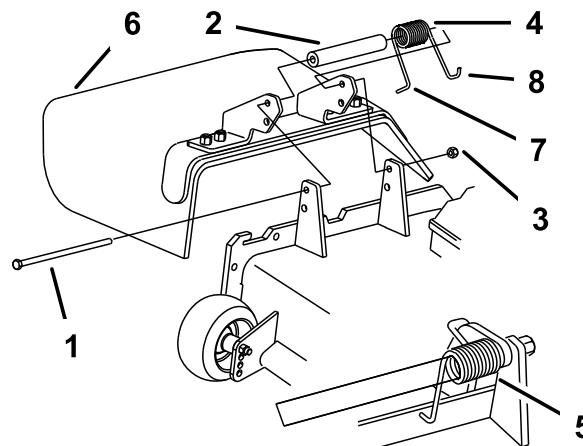

Figure 30
2. Remove the locknut, bolt, spring and spacer holding the deflector to the pivot brackets (Figure 30). Remove the damaged or worn grass deflector.
Note: Ensure that the L-end of the spring is installed behind the cutting unit edge before installing the bolt as shown in Figure 30.
4. Install the bolt and nut. Place the J-hook end of the spring around the grass deflector (Figure 30).